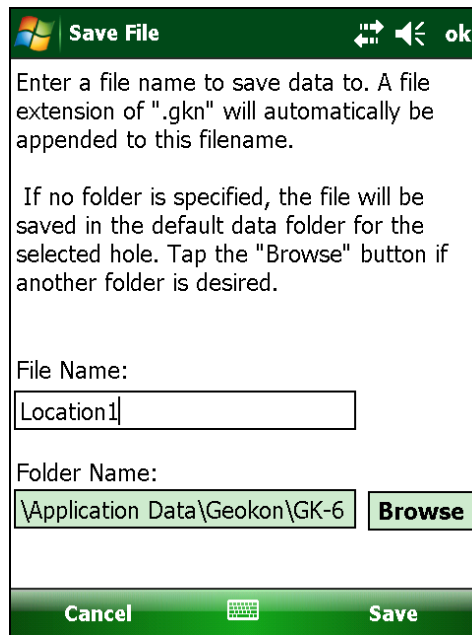

Figure 86 - Save File Dialog
11. Tap the "Yes" button to start the data saving process. The "Save File" dialog (Figure 86) will be displayed, allowing the user to name the data file to save.
14. Tapping "No" at the "File exists" dialog will again call up the "Save File" dialog (see Figure 86) and another opportunity will be given to select a new file.
8. Tap the "Yes" button to start the data saving process. The "Save File" dialog (Figure 86) will be displayed, allowing the user to name the data file to save.
11. Tapping "No" at the "File exists" dialog will again call up the "Save File" dialog (see Figure 86) and another opportunity will be given to select a new file.